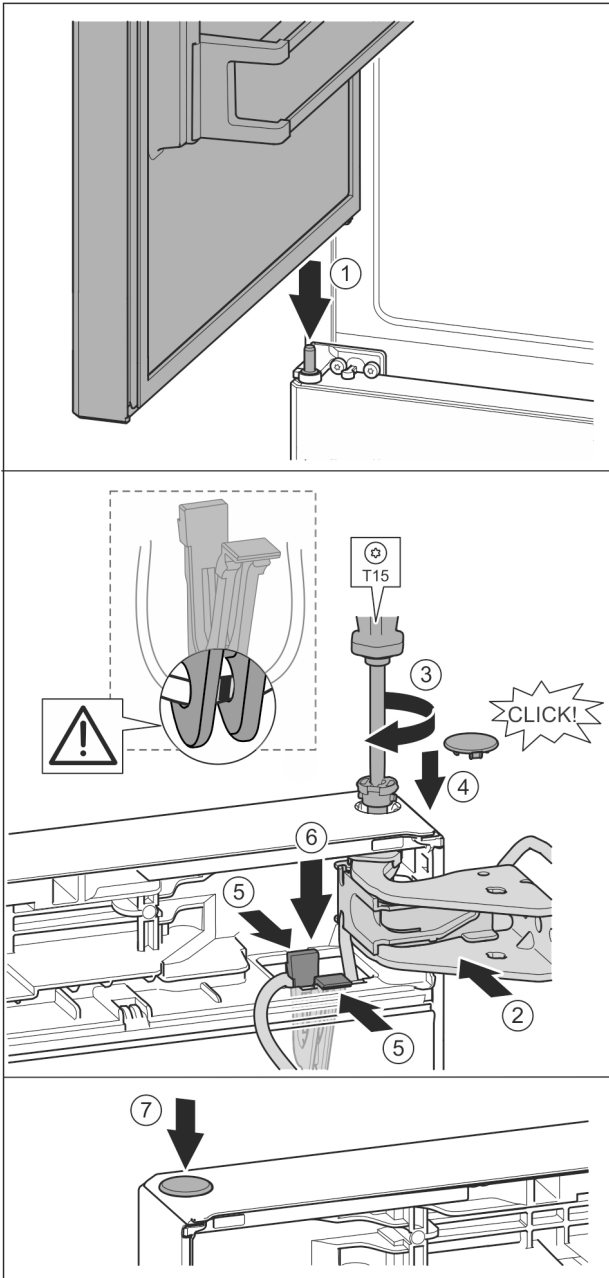

Fig. 36
- ▶ Place the upper door on the centre bearing pins *Fig. 36 (1)*
- ▶ Align the top of the door with opening in the bearing bracket. *Fig. 36 (2)*
- ▶ Insert the bolt and tighten with a T15 screwdriver. *Fig. 36 (3)*
- ▶ Fit the protective cover to protect the door: Insert the protective cover and check that it is attached to the door. If not, insert the bolt fully. *Fig. 36 (4)*
- ▶ Insert the holder with its cable into the opening. *Fig. 36 (5)*
- ▶ Press the holder downwards until the tab clicks into place. *Fig. 36 (6)*
- ▶ Insert the plugs. *Fig. 36 (7)*